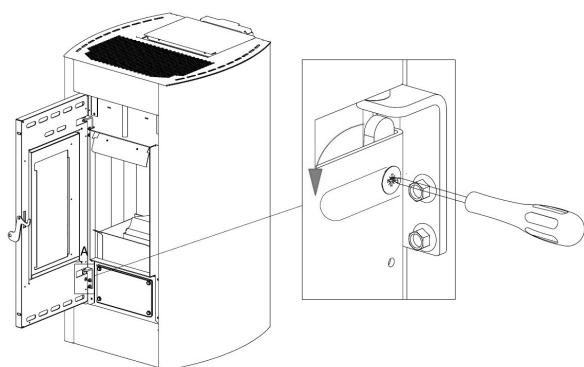

Fig. 31 - Remove screws
- Use a screwdriver to rotate the lever in the direction of the arrow (see **Fig. 31**).